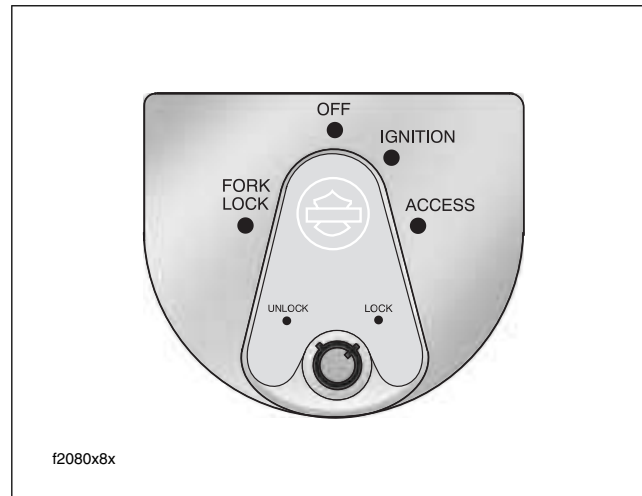

Figure 5-4. Ignition Switch (FLHX, FLHT/C/U, FLTR)
- See Figure 5-4. “Key ON” means that the ignition key is turned to IGN and the engine stop switch is set to RUN (although the engine is **not** running).